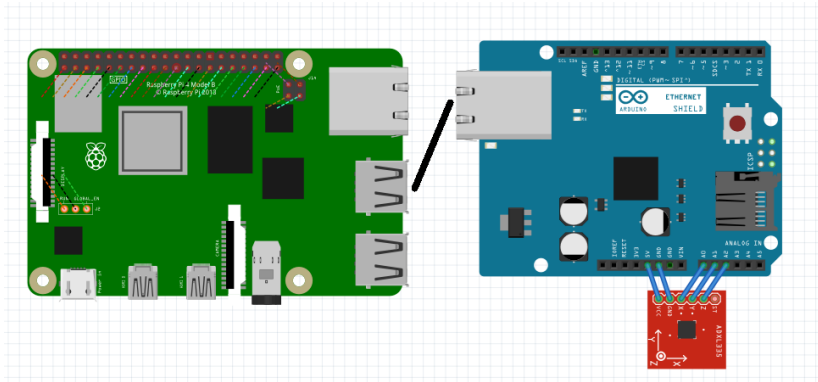

Figure 1: Hardware architecture with signal flow.
- Development of a low-cost embedded system for predictive maintenance [see Figure 1].